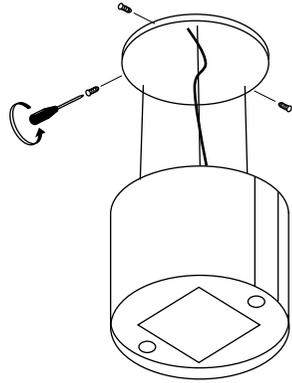

Fig 15
13. Screw the ceiling bracket cover back up (Fig 15).